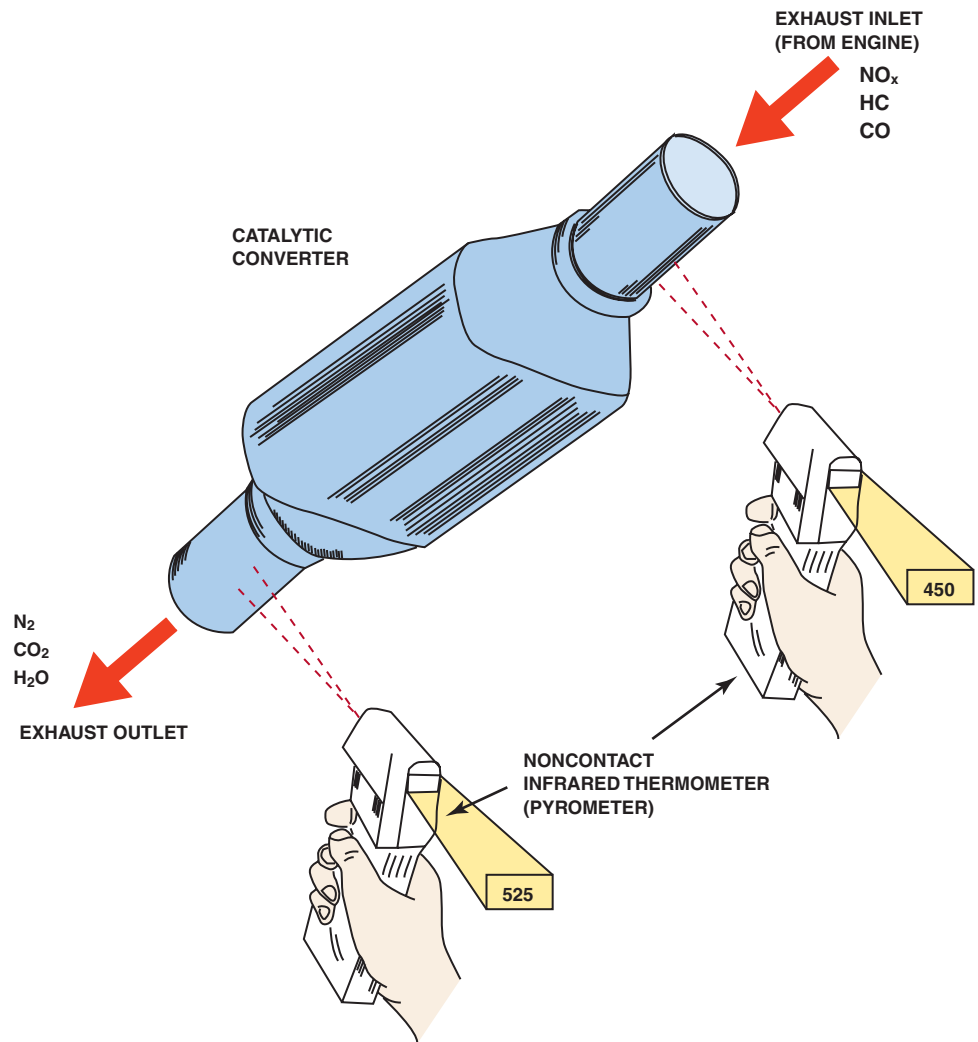

FIGURE 19-27
A properly working catalytic converter should be able to reduce NO_x exhaust emissions into nitrogen (N) and oxygen (O₂) and oxidize unburned hydrocarbon (HC) and carbon monoxide (CO) into harmless carbon dioxide (CO₂) and water vapor (H₂O). During these chemical processes, the catalytic converter should increase in temperature at least 10% if the converter is working properly. To test the converter, operate the engine at 2500 RPM for at least two minutes to fully warm up the converter. Measure the inlet and the outlet temperatures using an **infrared thermometer (pyrometer)**, as shown in ● FIGURE 19-27.